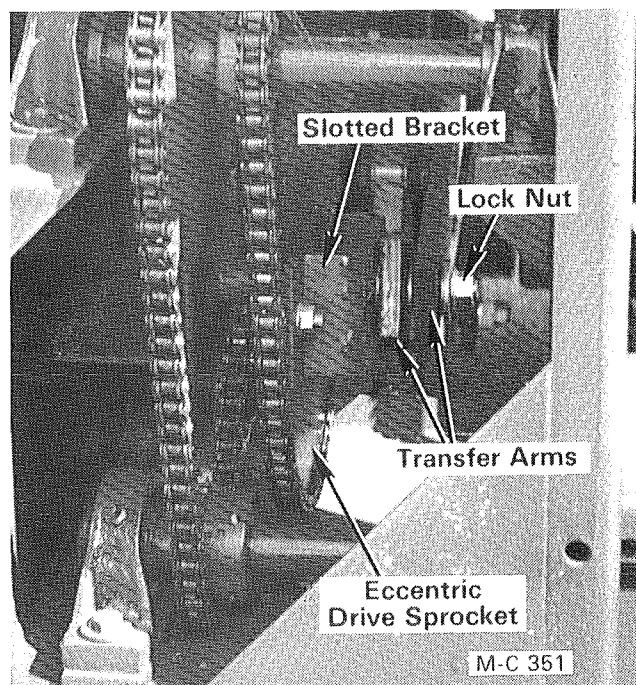

Figure 21
6. The transfer arms are anchored to a slotted bracket on the eccentric drive sprocket, see Figure 21. Loosen the locknut and adjust the transfer arms as follows: